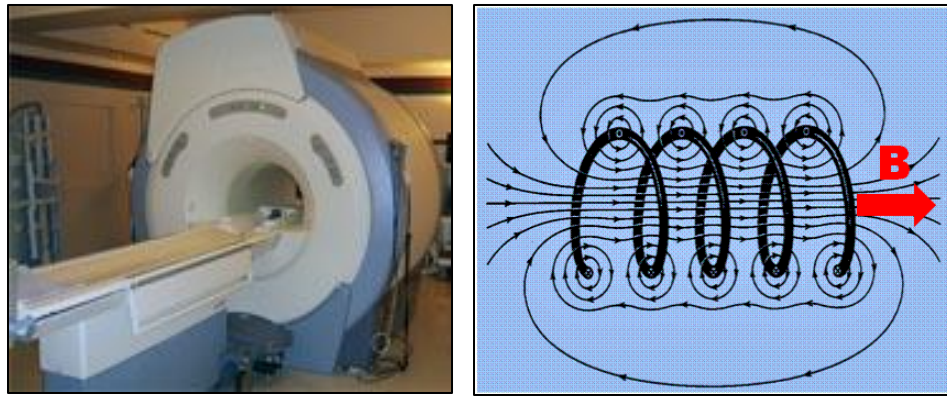

Figure 6. **Left:** superconducting scanner, **right:** Magnetic field created by solenoid
- 1- Closed-bore scanner:** Over 90% of scanners worldwide are of the closed-bore cylindrical design and generate their fields by passing current through a solenoid kept at superconducting temperatures. configuration with superconducting solenoidal design. The coils are bathed in liquid helium allowing a stable, homogeneous field to be created, typically 1T and higher (figure 6).